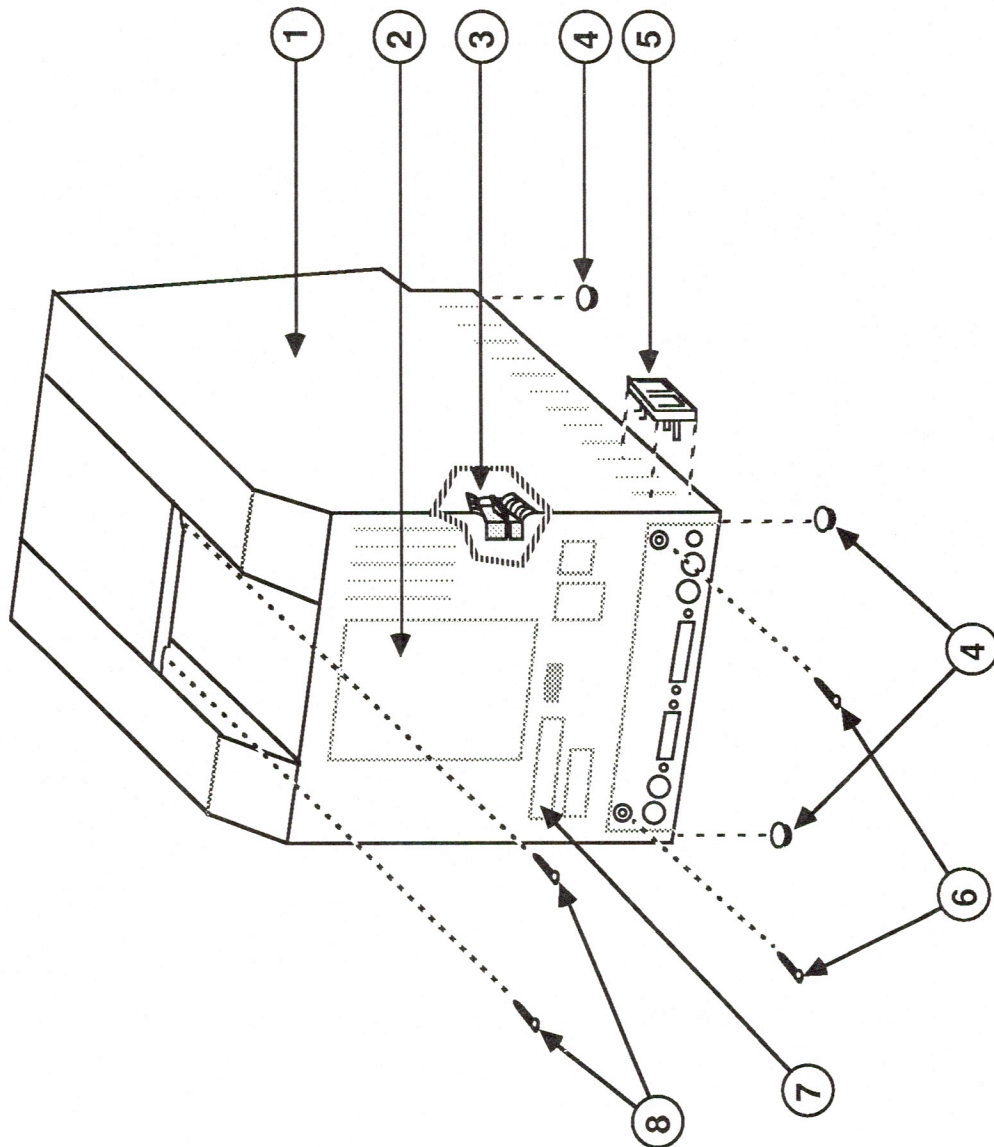

FIGURE 2
IPL.5	External Rear Housing (Figure 2)
□ **MACINTOSH SE – EXTERNAL REAR HOUSING (Figure 2)**